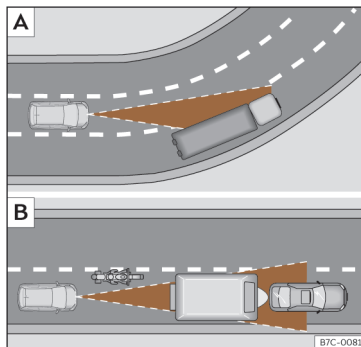

Fig. 157 **A** Vehicle on a bend. **B** Motorcyclist ahead, out of range of the radar sensor.
The ACC may not detect the vehicle in front on a curve, or may regulate the distance from vehicles in other lanes»» Fig. 157 [A].
- Vehicles that are not aligned while driving or that are outside the sensor's detection area, such as motorcycles»» Fig. 157 [B]